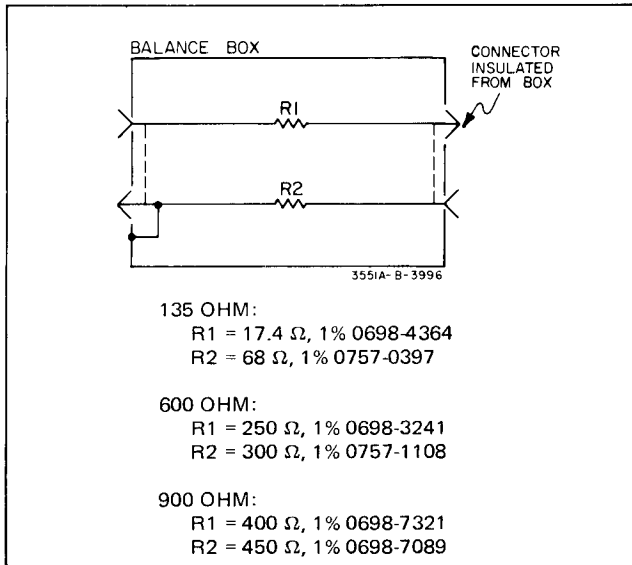

Figure 5-1. Impedance Box.
*pedances. Figure 5-1 shows the network configurations for each impedance.*